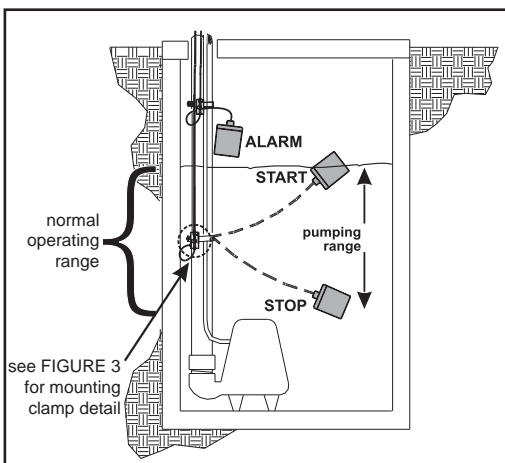

Figure 1
1. Determine your normal operating level, as illustrated in Figures 1 & 2.